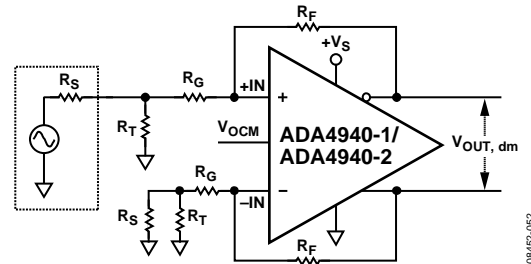

Figure 65. ADA4940-1/ADA4940-2 Configured for Unbalanced (Single-Ended) Input
**Table 16. Single-Ended Ground-Referenced Input, DC-Coupled,  $R_S = 50\text{ }\Omega$ ,  $R_L = 1\text{ k}\Omega$  (See Figure 65)**
For an unbalanced, single-ended input signal (see Figure 65), the input impedance is